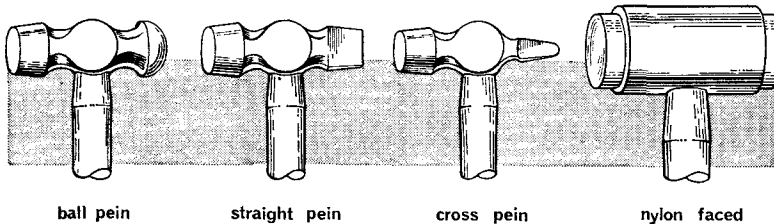

Fig. 17 Types of hammer
16. Hammers are classified by the type and weight of the head (Fig. 17).